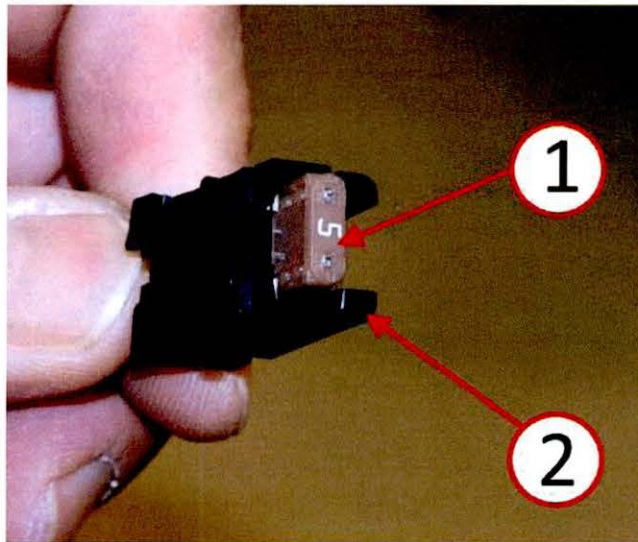

**Fig. 3 Insert Wire Pair F814 Into Fuse Holder**
3. Insert shared terminal of wires F814 BR-BK (1) into fuse holder (2) then close terminal lock (3) (Fig. 3).